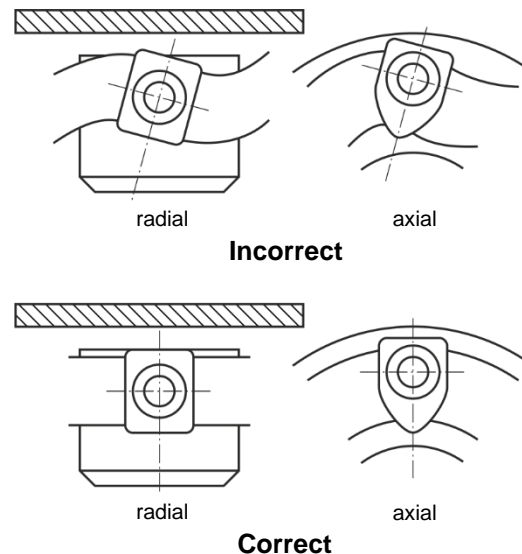

Fig. 5
All cap screws (Item 19, axial and radial) connecting the flexible ring (20) with the hub (21) must be tightened using a torque wrench to a tightening torque acc. Table 3. Tightening "based on gut feeling" is by no means sufficient, as experience has shown that the tightening torques are then too low. Low tightening torques inevitably lead to loosening of the screws and therefore to destruction of the coupling. When tightening the screws, ensure that the aluminum bushings in the flexible ring (20) are not turned as well; instead they should sit straight (Fig. 5). In order to reduce the friction between the screw head and the aluminum part, you must apply a small amount of grease under the screw head before starting the installation. If necessary, prevent a rotation (tilt) of the flexible ring (20) when tightening the screws through the application of counter-pressure using a suitable tool. This is particularly important for the radial screws, as otherwise the cylindrical surfaces between the aluminum part and the hub (21) do not carry properly over the entire area, but only on two corners. This inevitably leads to loosening of the screws and subsequently to destruction of the coupling. If the coupling is pre-assembled on delivery, it should not be dismantled again, but rather installed in its pre-assembled state.